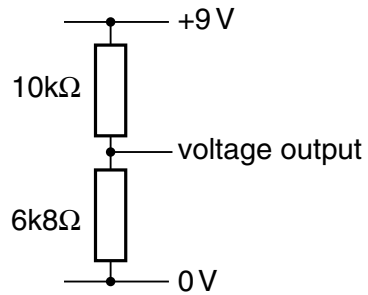

Fig. 4
- (b) Showing all calculations, work out to two decimal places the voltage output for the potential divider shown in Fig. 4. [4]
(c) Name and draw a single device that could replace the two resistors in Fig. 4 to achieve the same output voltage. [2]